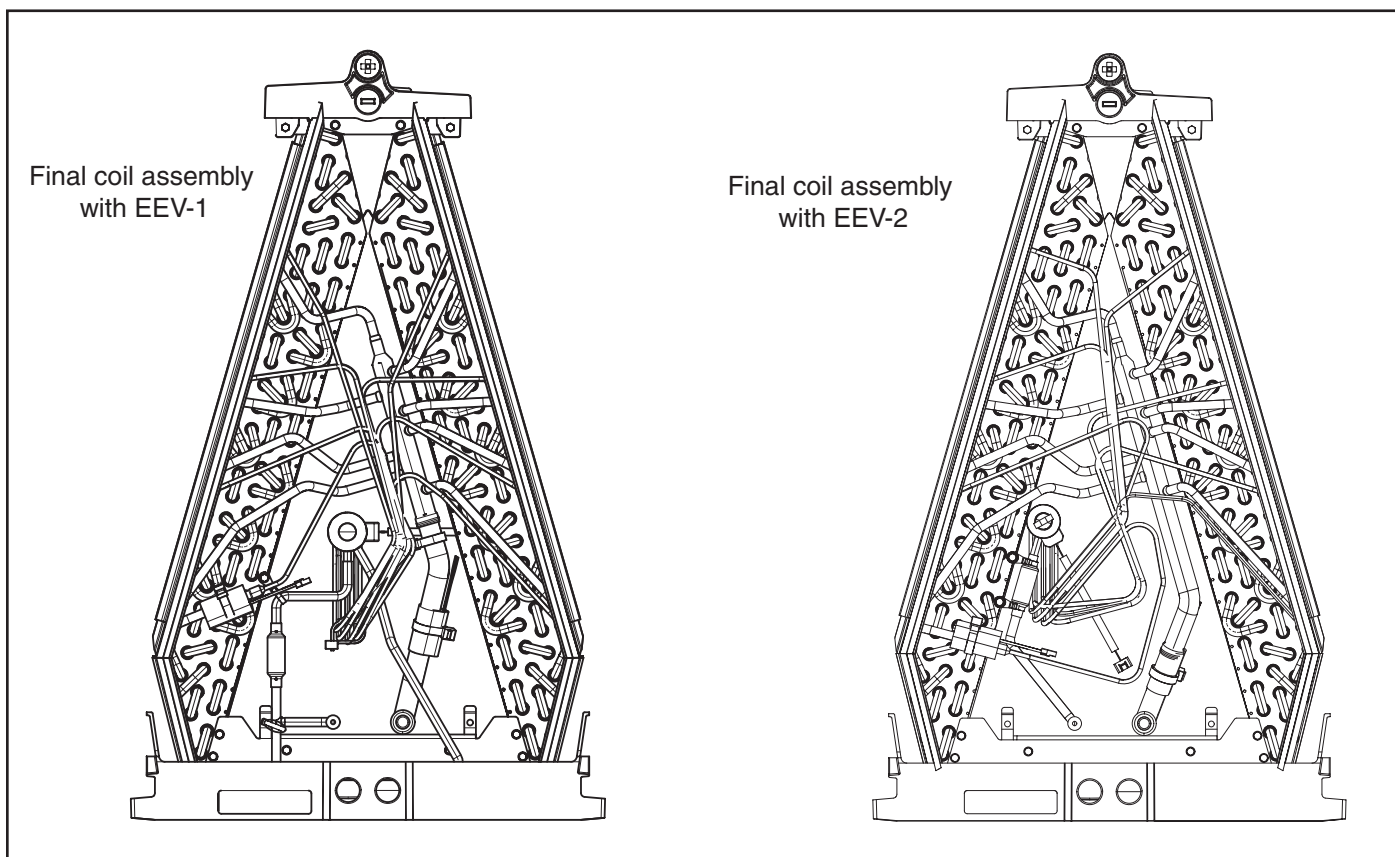

Figure 22 – Completed assemblies
- See Figure 22 for image of completed coil.